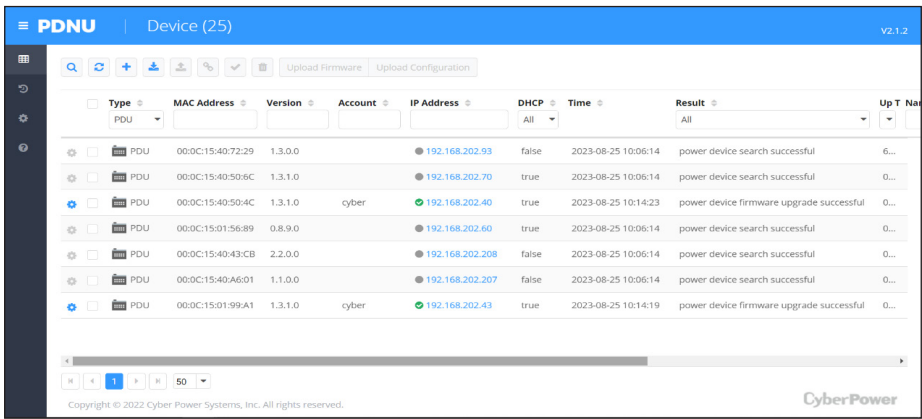

Figure 6
9. The result of firmware upgrade will show in Result column (Shown in Figure 6).